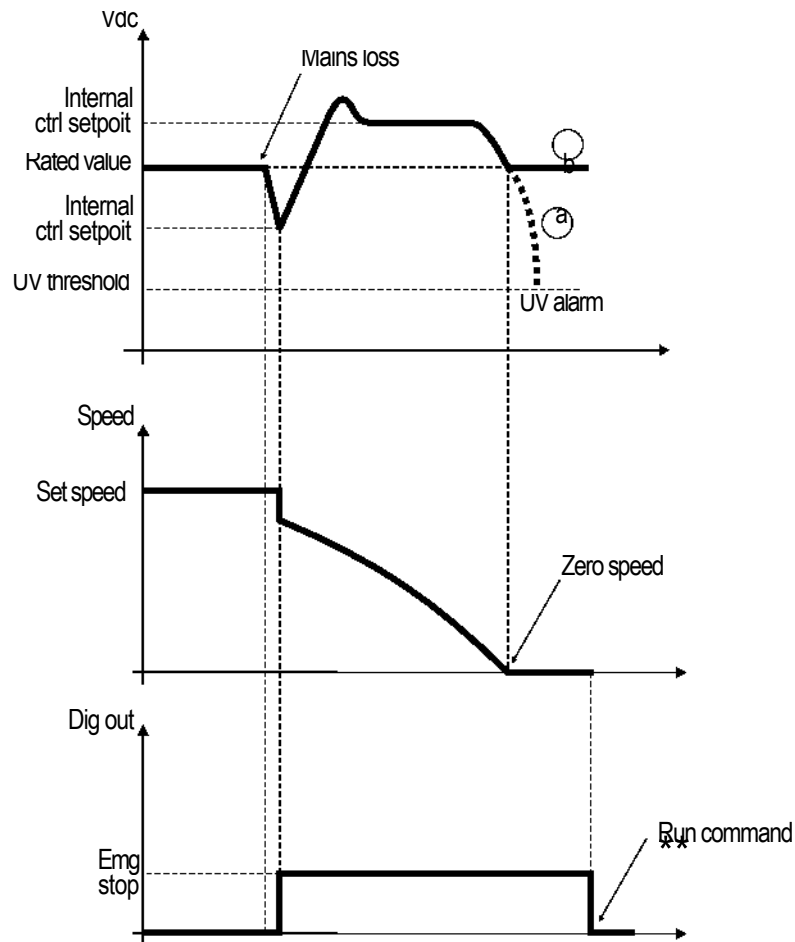

Figure 7.6.12: Emergency Stop
- P. 343 = 2** Emg Stop See figure 7.6.12